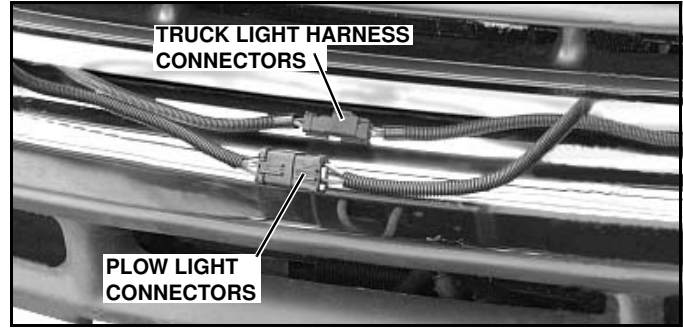

Figure 1-32
4. To make the truck lights operable, plug the male and female EIS® connectors on the truck light harness together. (See Figure 1-32).